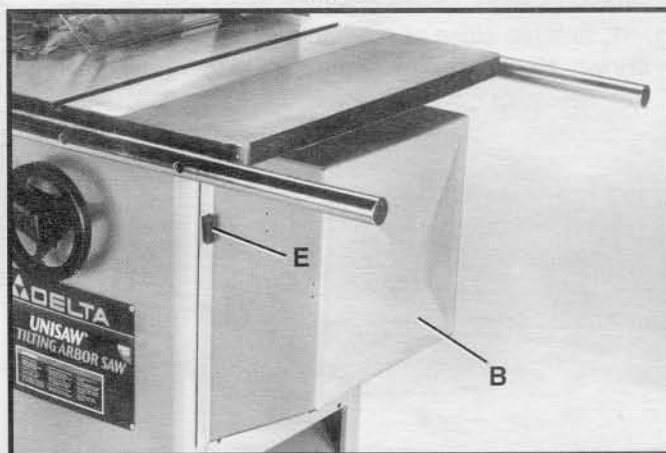

Fig. 35
5. Push down on lever (E) Fig. 35, to lock motor cover (B) in position on the saw cabinet.
6. To open motor cover (B) Fig. 35, pull up on lever (E) and swing motor cover outward.